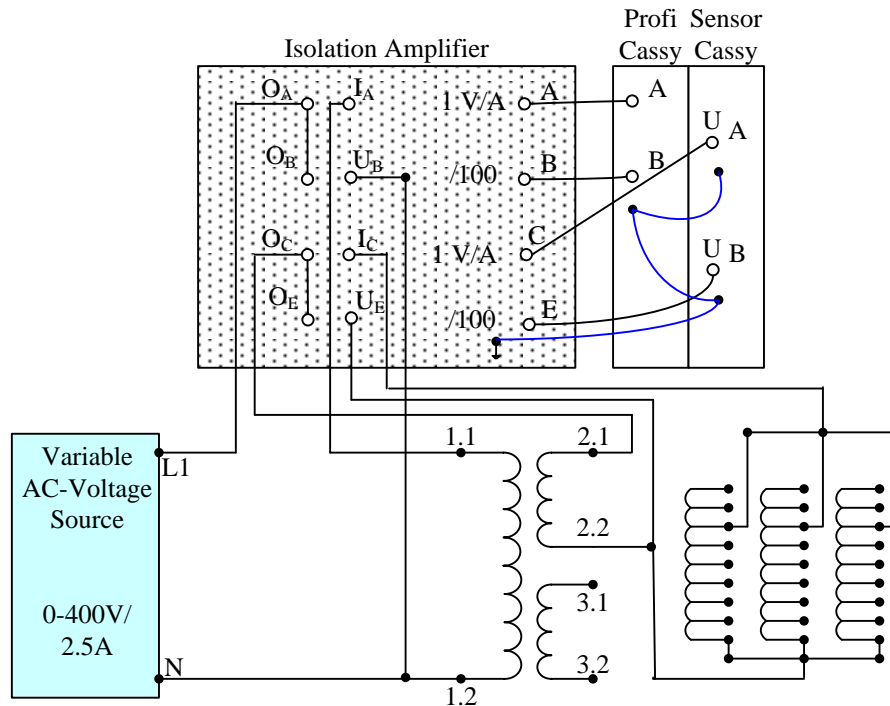

Figure 5 Circuit for investigating voltage behavior with inductive load
31. Replace the resistive load with an inductive load and change the circuit to match Fig. 5. Here too, the inductive load elements are to be connected in parallel to increase current handling capability.